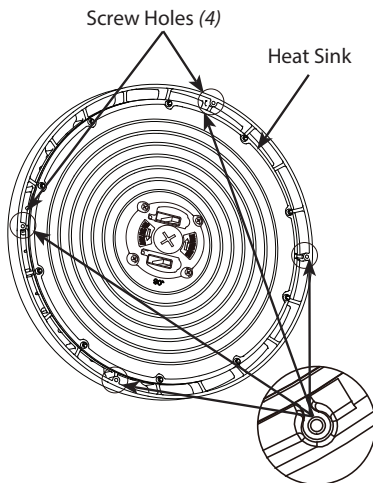

Fig: 1
1. Align the **Wire Guard** screw holes with the **Heat Sink** as shown in Fig. 1, and 2.